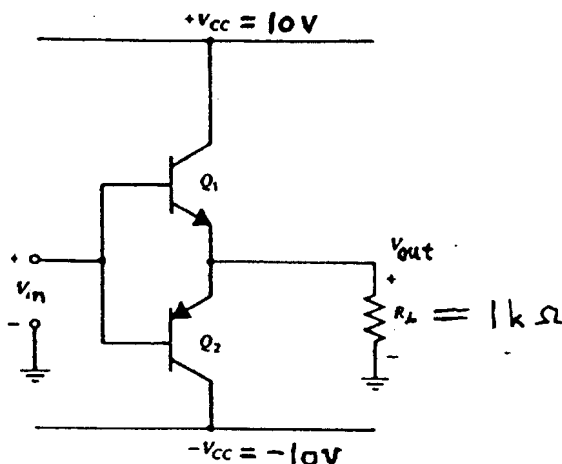

Figure 4. Class B output stage
- 1) Build the class B output stage as shown in Figure 4. Obtain and sketch the  $V_{\text{out}}$  vs.  $V_{\text{in}}$  transfer characteristic by using the x-y function on the oscilloscope. Use a 1 kHz sine-wave input. How large is the "dead band" around  $V_{\text{in}}=0\text{ v}$ ? What is the gain of the output stage outside of the dead band?